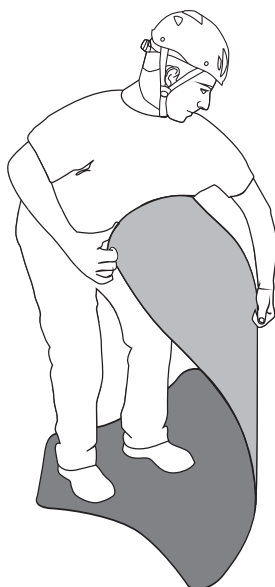

Fig.7
- Remove **“HALF ROLLY”** rescue sheet from the transport bag (O) and remove the ratchet sling (N),
- Distend the support surface (A) and flatten it, rolling the ends over in the opposite direction and folding the central section (fig. 7)